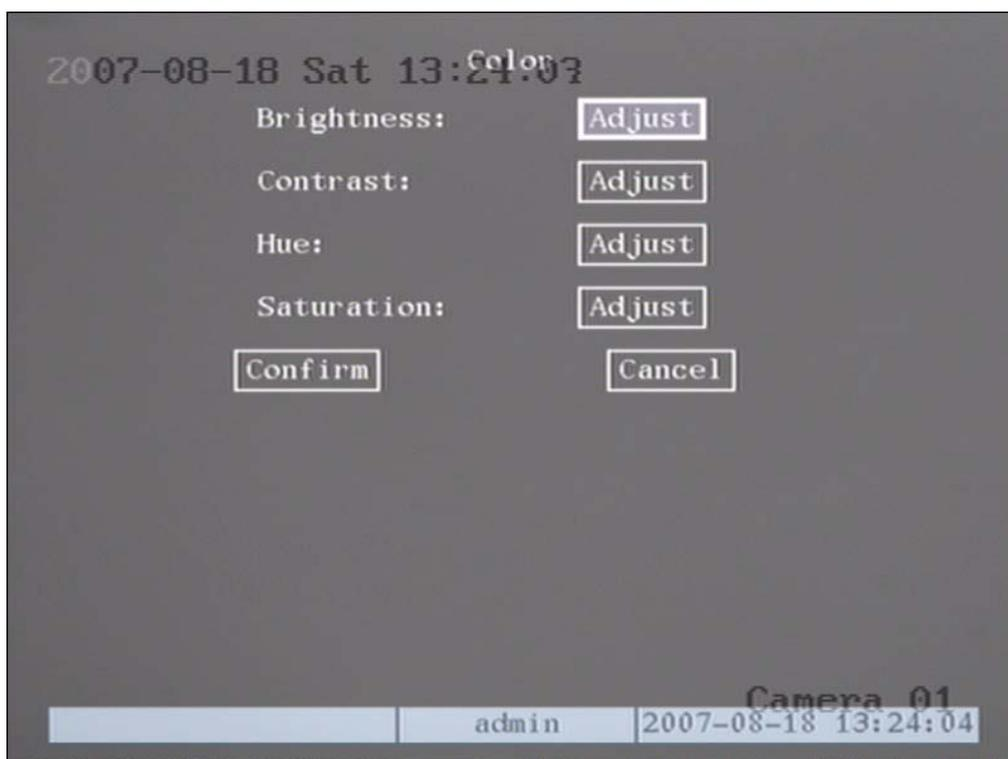

Fig 5.12 Color setup
Step 1: Enter into “Camera”, select a camera then enter “Color setup” menu shown as fig5.12